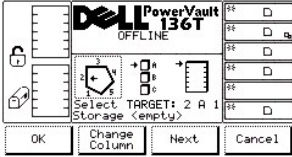

Figure 12. Status > Library > Slot Dialog
When Slot is selected, the Slot Dialog is displayed. See Figure 12. This option is used to view the current slot physical and statistical characteristics.
- 1 If the button beneath the **Next** softkey is selected, the current source parameter changes from slot to column as shown in the Slot Dialog. Refer back to Figure 12.